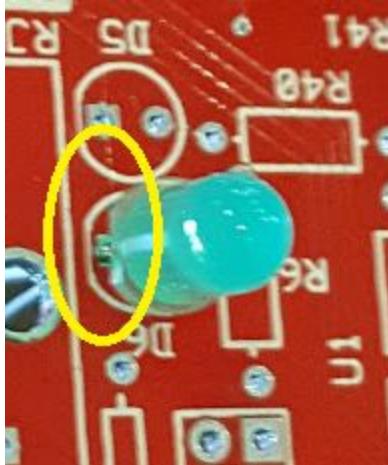

Fig7 (Wrong color pictured for D6)
16. Install the following LEDs. Ensure that the flat side of the LED is oriented to the flat side indicated on the circuit board. See Fig7.